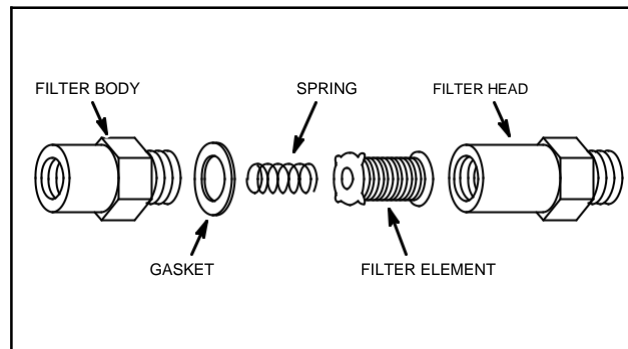

Fig. 301 - ELEMENT ASSEMBLY
1. Shut off gas. Unscrew filter head from filter body. Remove element assembly from head, Fig. 301.